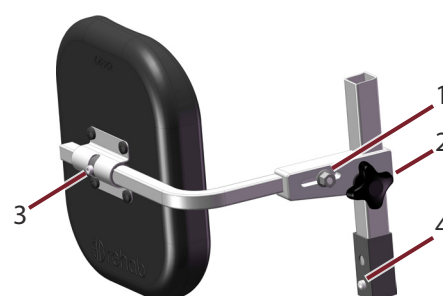

Figure 26. Separate calf support
- Loosen the lock nut a few turns (1 in Figure 26)
- Loosen the knob (2 in Figure 26).
- Loosen the screw a few turns (3 in Figure 26).